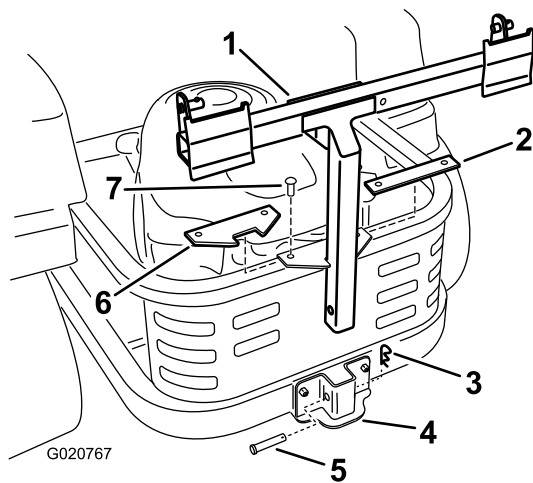

Figure 6
5. Install the new spacer plate as shown in Figure 6 using the fasteners removed previously.
6. Install the bagger frame to the support bracket. Secure the bagger frame with a clevis pin (1/2 x 2-1/4 inch) and hairpin cotter pin (Figure 6).